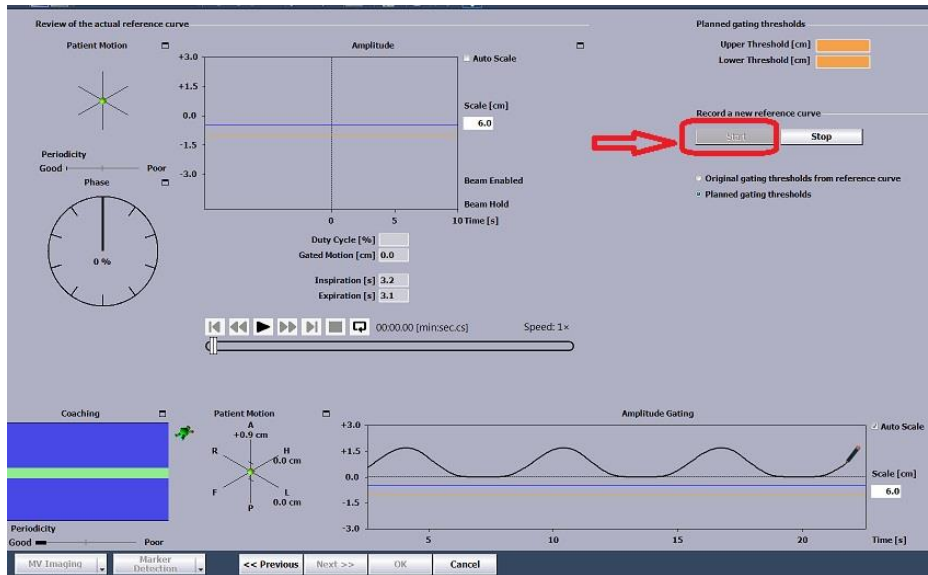

Figure 53: Acquire Breathing Pattern
10. The Gating system will start to detect and learn the breathing pattern. Once the learning pattern is achieved, the breathing curve will be shown as in Figure 53.
11. Select **START** as shown in Figure 53 to acquire Reference Curve. After ~ 10 seconds, click **Stop** to stop acquisition.